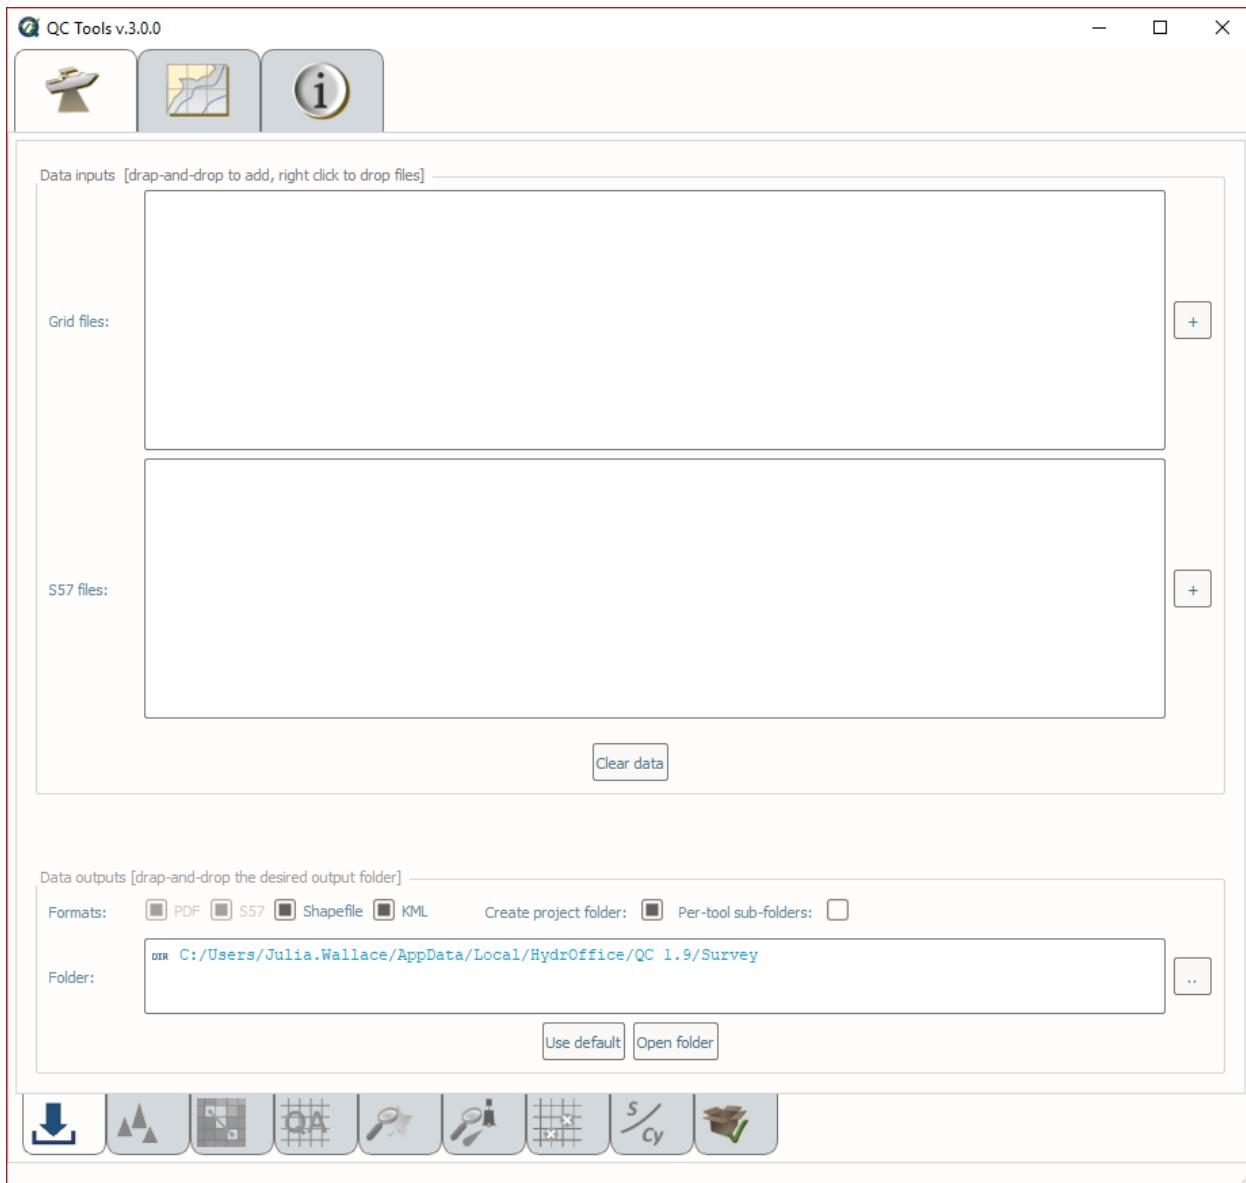

Fig. 2.2: Data inputs and outputs for the *Survey* tab.
- With the addition of a grid and features, the **Detect fliers**, **Detect holidays**, **Grid QA**, **Scan designated**, **Scan features**, **VALSOU checks**, and **SBDARE export** tabs on the bottom of the interface are now available (Fig. 2.2).